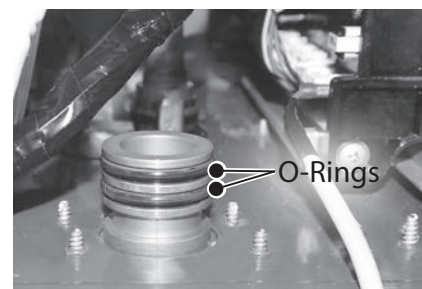

Figure 80 - Gas inlet connector O-rings
- 8 Locate the two gas inlet connector O-rings and new gas inlet connector provided in the kit. Install new O-rings to the new gas inlet connector. See Figure 80.